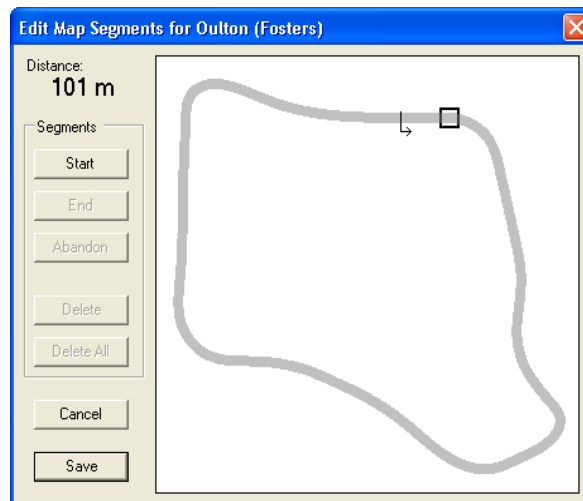

Figure 21 - Edit Map Segments Dialog (No Segments)
2. Choose **Map → Edit Segments** from the main menu. The Edit Map Segments dialog (Figure 21) appears.